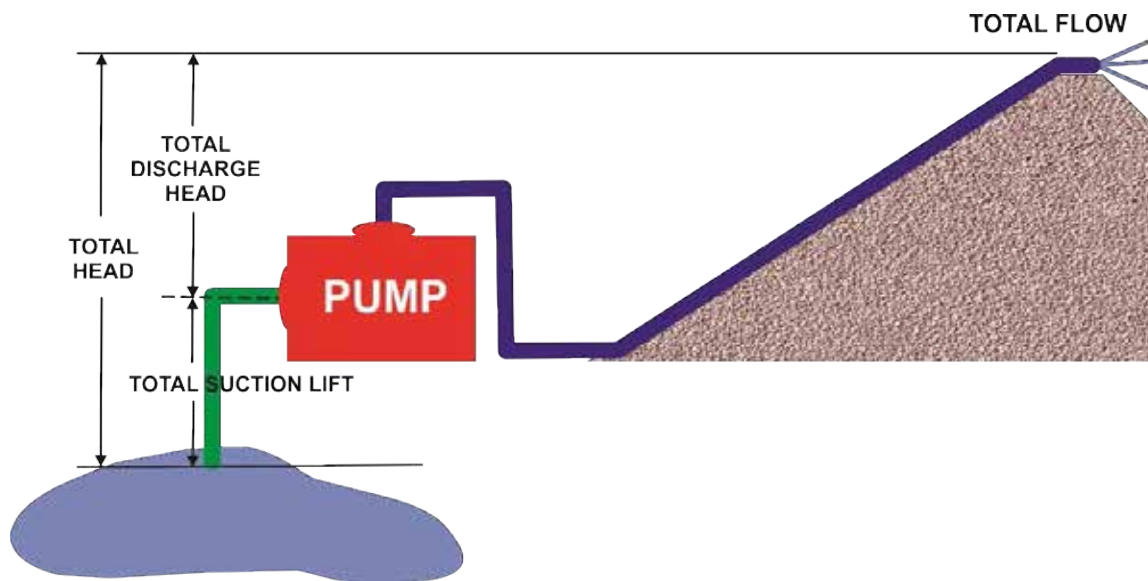

Figure 8. Pump Placement
1. It is advantageous to place the pump as close as possible to the water source (Figure 8) on a solid, level operating surface. The most critical factor for successful pump operations is not to exceed 25 feet (7.62 meters) total suction lift (at sea level).